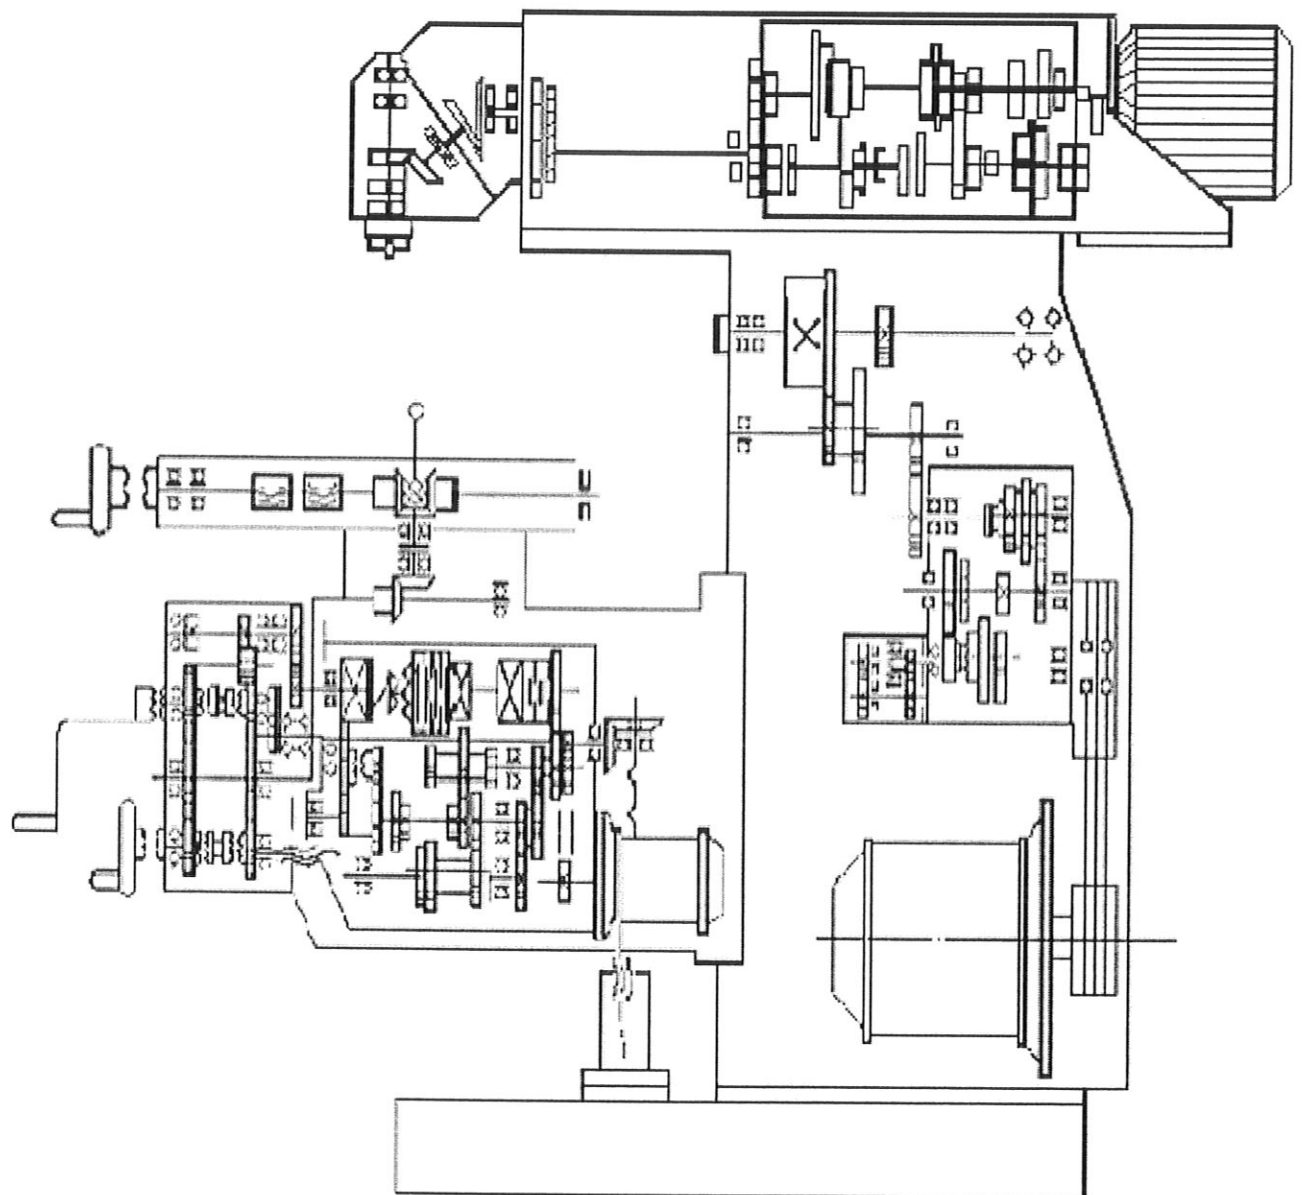

Fig.2 Driving system of Series X6230 Universal Rotary-head Milling Machine
3.2 Sketch of driving system of the machine(see Fig.2)**3.3 Main structure & features of the machine**